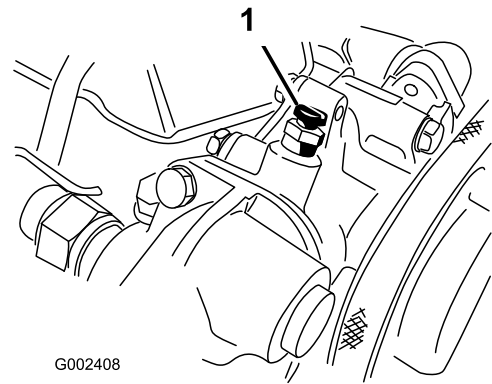

Figure 56
5. Open the bleed screw on top of the water pump (Figure 56).